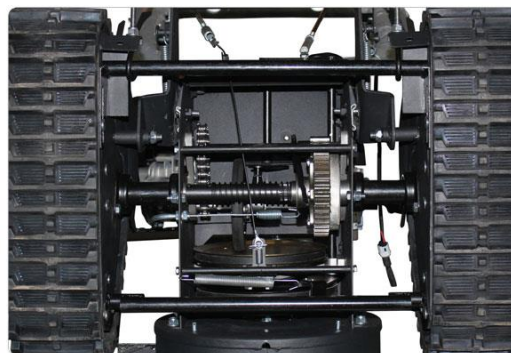

Figure10
2. Apply a light coating of an all-weather multi-purpose grease to the hex shaft and all gears. See Figure10